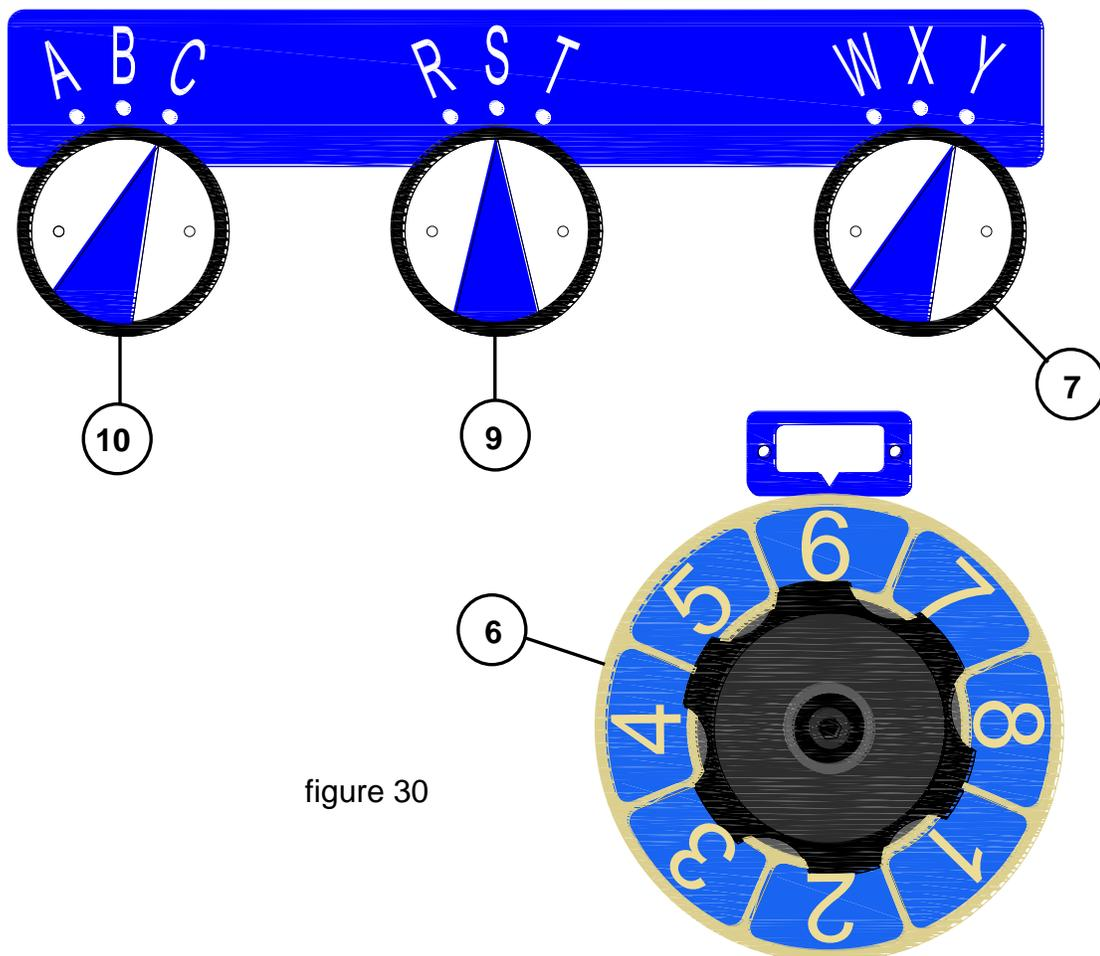

figure 30
The three knobs as shown in (fig. 30) are used to change the feed rate or number of threads-per-inch. This part of the lathe is commonly referred to as the Quick Change Gear Box. It has been designed to handle both inch (imperial) and metric (mm). The knob on the left (10) A, B, & C, the center knob (9) D, E, & F, and the right knob (7) R, S, T, & U are set to a selected value from the chart on the following page. The feed selector dial (6) will be set to a numerical value from the chart. (This chart is also located on the front of the headstock gear cover.)